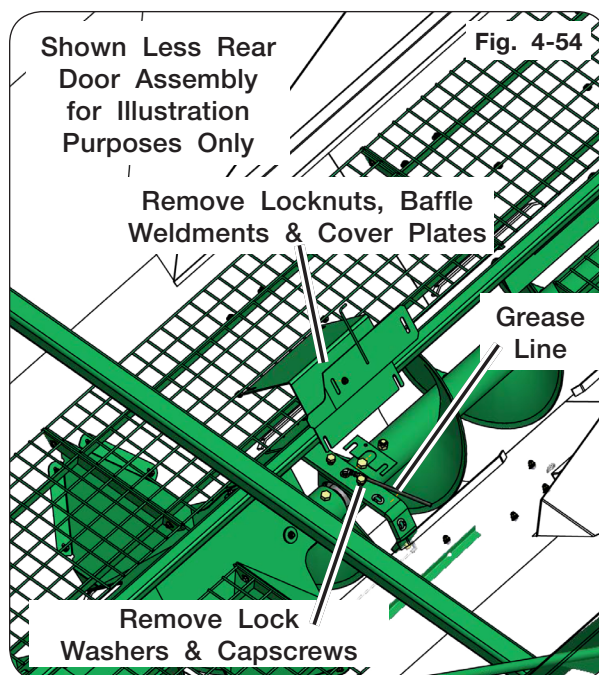

Fig. 4-54
9. Remove locknuts, baffle weldments and cover plates from the middle tent. (Fig. 4-54)
10. Disconnect grease line. (Fig. 4-54)